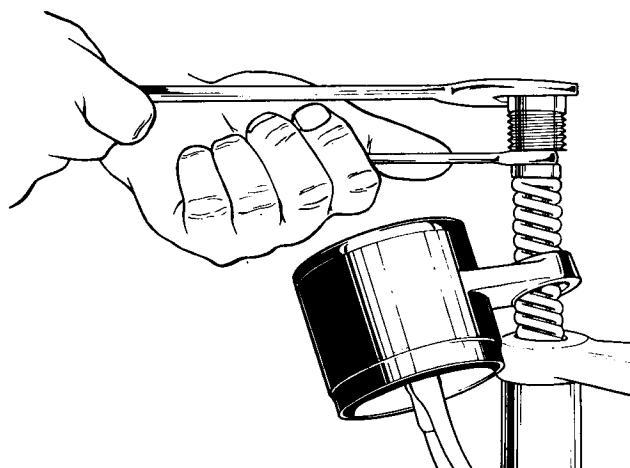

Fig. G7 Releasing damper rod from fork top bolts.
- 2 Unscrew and lift the fork tube large chrome top bolts and using two spanners as shown in *Fig. G7* release the damper rod from each top bolt.
- 10 Again lift the large chrome top bolts, firstly to add oil and secondly to connect the damper rods. Measure the required quantity of oil for each fork leg (150 cc of SAE 20). Pouring the oil into the leg will prove a long operation. To speed up the filling operation, pour in as much of the measured quantity as possible, place the hand firmly over the top of the main tube and extend the fork leg. Do this several times to speed up oil drainage into the slider. When the measured quantity has been added, and with the instrument case held in position, connect the damper rod to the chrome bolt as in *Fig. G7*. Using a socket wrench on the chrome bolts, tighten to 40 lbs/ft (5.83 kg/m).